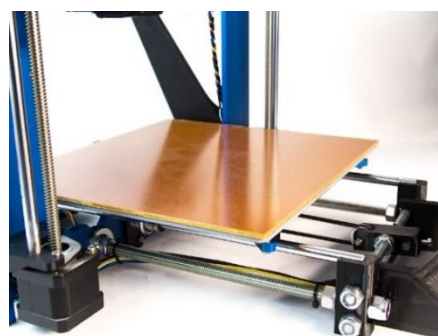

Fig 3.5 Print bed
4. **Print Bed:** The print bed (as shown in Fig. 3.5) is the surface where the object is built. It can be heated or unheated, depending on the printer model and the type of filament being used. Heated beds help prevent warping by keeping the bottom layers of the print at an elevated temperature. Some print beds have special coatings to improve adhesion.